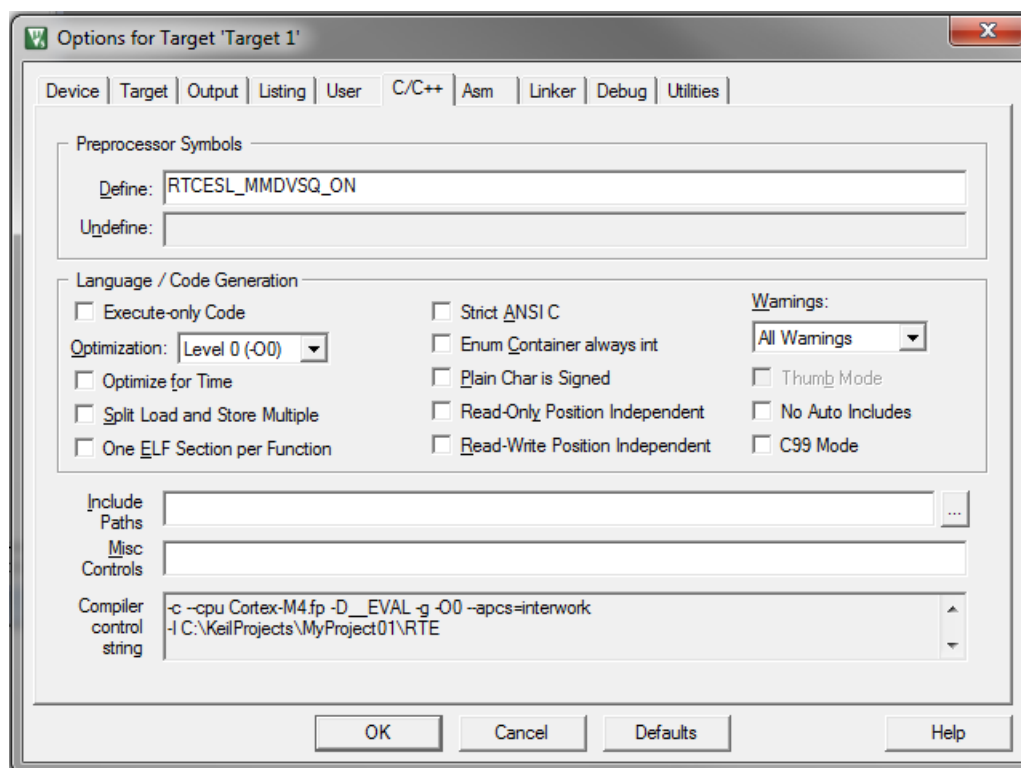

Figure 1-30. Preprocessor symbols
- Select the C/C++ tab. See Figure 1-30.